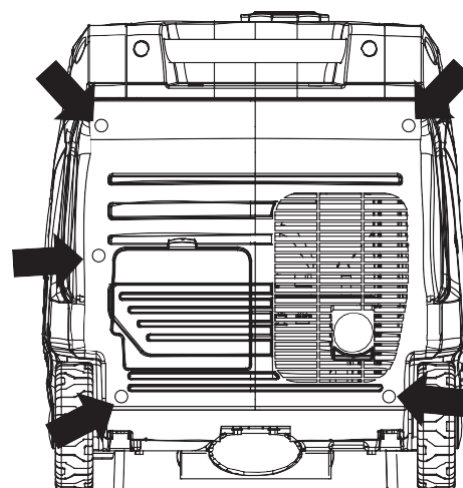

Figure 20: Remove Muffler Access Panel
23. Remove the screws holding the muffler cover in place (see Figure 20).